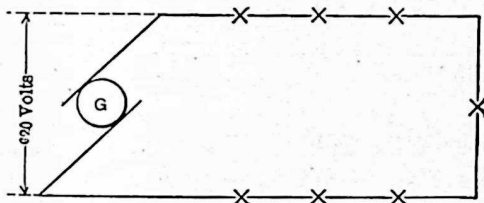

FIG. 85.
**Prob. 47.** Each arc-lamp, Fig. 85, takes 6 amp. at 85 volts. The distance between lamps is 200 ft. The lamps nearest the